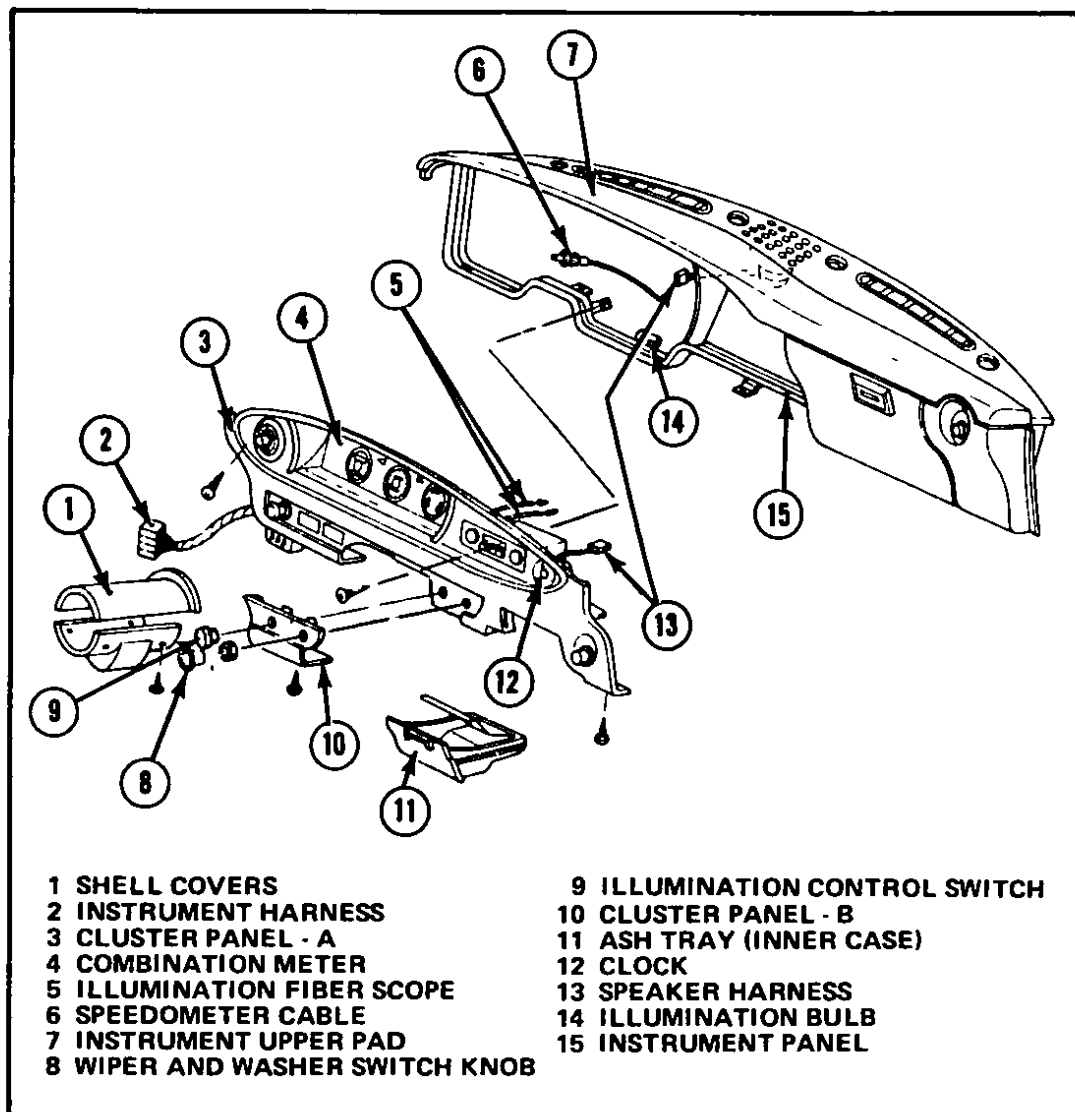

Fig 79 Cluster panel removal – Model 710
- 2 Remove the cluster panels A and B as follows, Fig 79